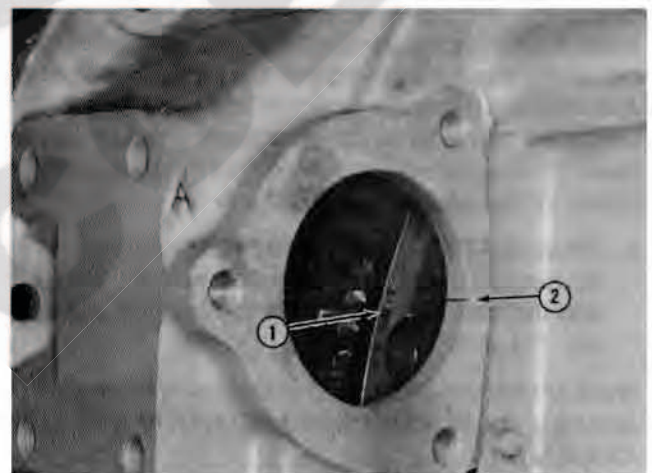

Fig. 2-33, (K21918). Valve set marks on right bank flywheel and housing — KT/KTA38
2. When barring the engine from the right bank at the flywheel housing "A" VS timing marks on the flywheel (1, Fig. 2-33) must align with the scribe mark (2) when viewed through the opening marked "A" on the flywheel housing.